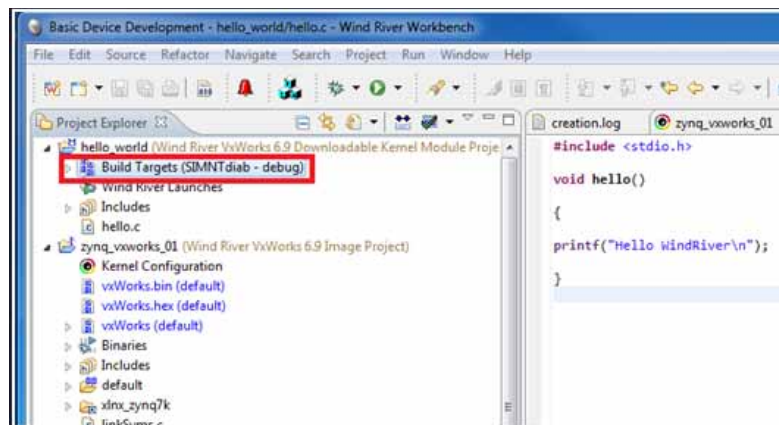

Figure 15: Build Target Selection
6. In the Project Explorer window, select **Build Targets** (Figure 15), and click the right mouse button.